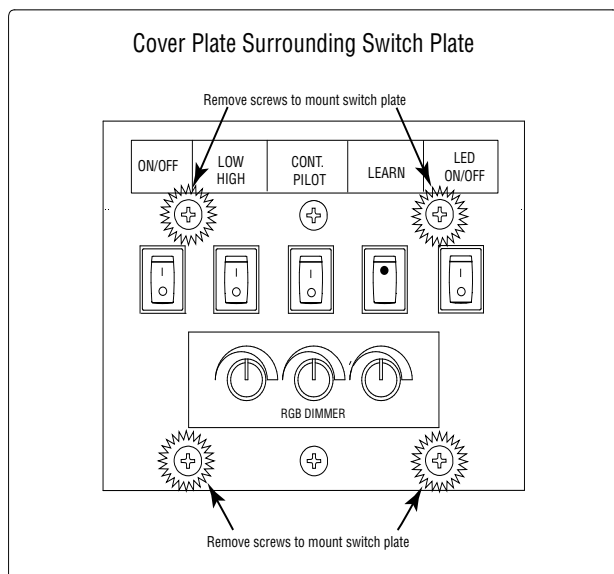
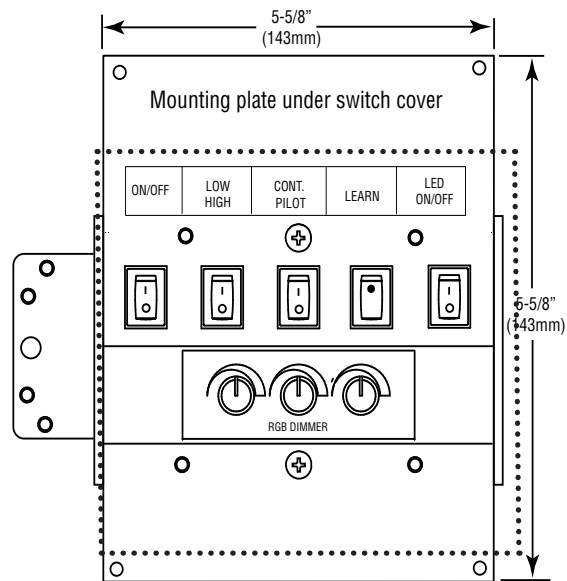

Fig. 24 RGB control box with 8 3/4" x 8 3/4" cover plate.
Fig. 25 RGB control box mounting plate
Step 11: Remove the RGB control box from the components parts carton. Find a suitable location within a close proximity of the fireplace for convenience of operation and mount the control box upright and level as shown in Fig. 26, page 21. Use Figs 24 & 25 for dimensional reference. The fireplace is supplied with 10-feet of wiring for the RGB control box (switches and dimmer) installation. **Note:** If desired, you can purchase 10-foot wire extensions in the accessories section that will enable you to move the RGB control box up to 50-feet away from the fireplace. **CAUTION:** Ensure all switches are in the OFF position. "I" indicates ignite/ON and "O" indicates OFF. Learn button does not apply.
Step 12: Remove the four (4) outer screws from each corner inside the cover plate and lift off. See Fig. 24. This will expose the mounting plate. See Fig. 25. **CAUTION:** Do not remove the two center screws from the cover plate. This will release the entire switch box wiring from inside the junction box and make it difficult to reinstall.
Step 13: Find a desired location to mount the RGB control box. Cut a 6" wide x 5 1/2" tall hole into the cement board. See dotted line in Fig. 25. Mount the RGB control box. **Note:** The wires from the switches can be removed for easier installation, if needed. Ensure to match the wires with the labels for each switch when reattaching.